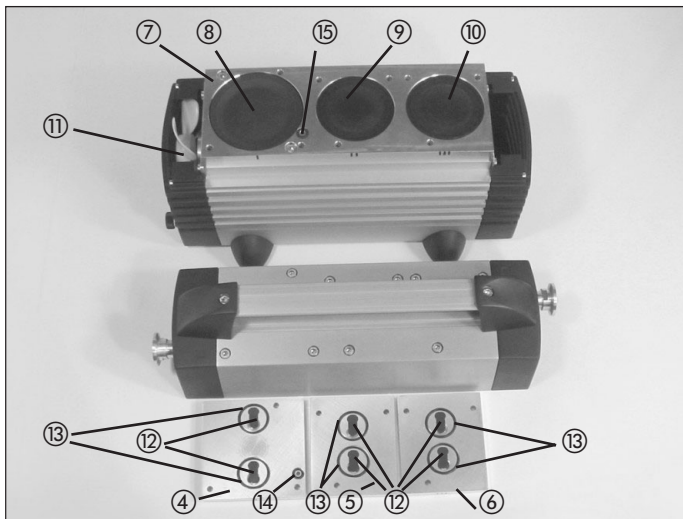

Fig. 6: Servicing level 3
- 6 Turn the three structured diaphragms ⑧, ⑨ and ⑩ outwards with your hands, counter-clockwise (fig. 6). For this, turn the fan ⑪ such that you can easily grip each structured diaphragm with your hands.
- ▶ For structured diaphragms ⑨ and ⑩:
- 7 Remove the valve plates ⑫ and O-rings ⑬ from the intermediate plates ④, ⑤ and ⑥ (fig. 6).
- 8 Remove O-ring ⑭ from the intermediate plate ④ (fig. 6).
- 9 Remove O-ring ⑮ from adapter ⑦ (fig. 6).
- 1 Screw the new structured diaphragm ⑧ into the thread of the vacuum diaphragm ⑬ and tighten it by hand (figs. 6 and 7).
- 2 Screw the new structured diaphragm ⑨ onto the connecting rod ⑰ and tighten it by hand.
- ③ Screw the new structured diaphragm ⑩ onto the connecting rod ⑱ and tighten it by hand.
- ▶ Before you finally tighten the structured diaphragm, you are recommended to move the structured diaphragm to the upper dead center by rotating the fan ⑪.
- ① Lay the new O-ring ⑮ on the adapter ⑦ (fig. 6).
- ② Lay the new valve plates ⑫ and the new O-rings ⑬ on the intermediate plates ④, ⑤ and ⑥ (fig. 6).
- ③ Lay the new O-ring ⑭ on the intermediate plate ④ (fig. 6).
- ④ Place the intermediate plates ④, ⑤ and ⑥ on the adapter ⑦ in the position indicated by the drawing lines (M).
- ⑤ Place the head cover ① on the pump housing ③; tighten the screws ② hand tight, evenly and diagonally.
- ① Reconnect system tubing.
- ② Reconnect pump to the electricity supply.